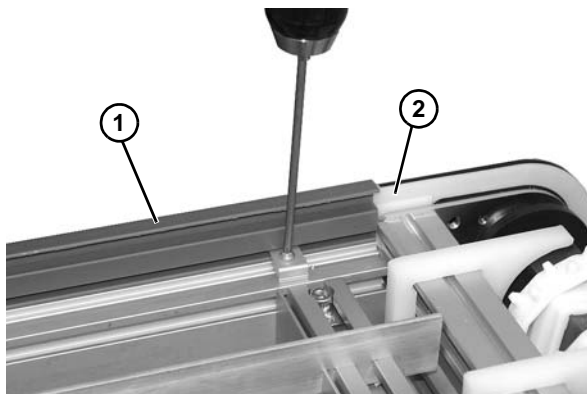

Figure 45
1. Install outer top wear strips (**Figure 45, item 1**) so that end of wear strip is flush with tail assembly (**Figure 45, item 1**).